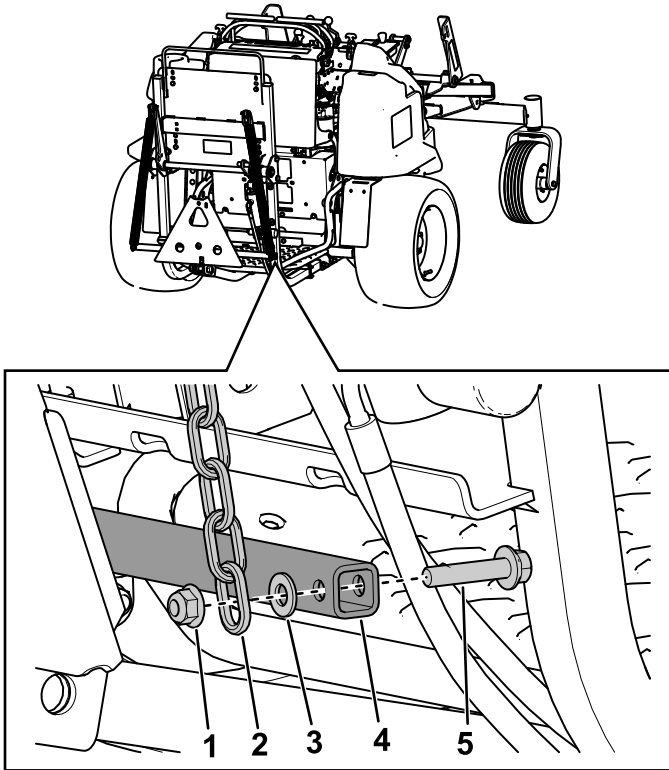

Figure 10
- Connect the bottom of the long rear-lift chains to the hanger tube at the bottom of the lift frame using flange-head bolts (3/8 x 1-3/4 inches), washers (2/5 inch), and flange locknuts (3/8 inches) as shown in Figure 10.